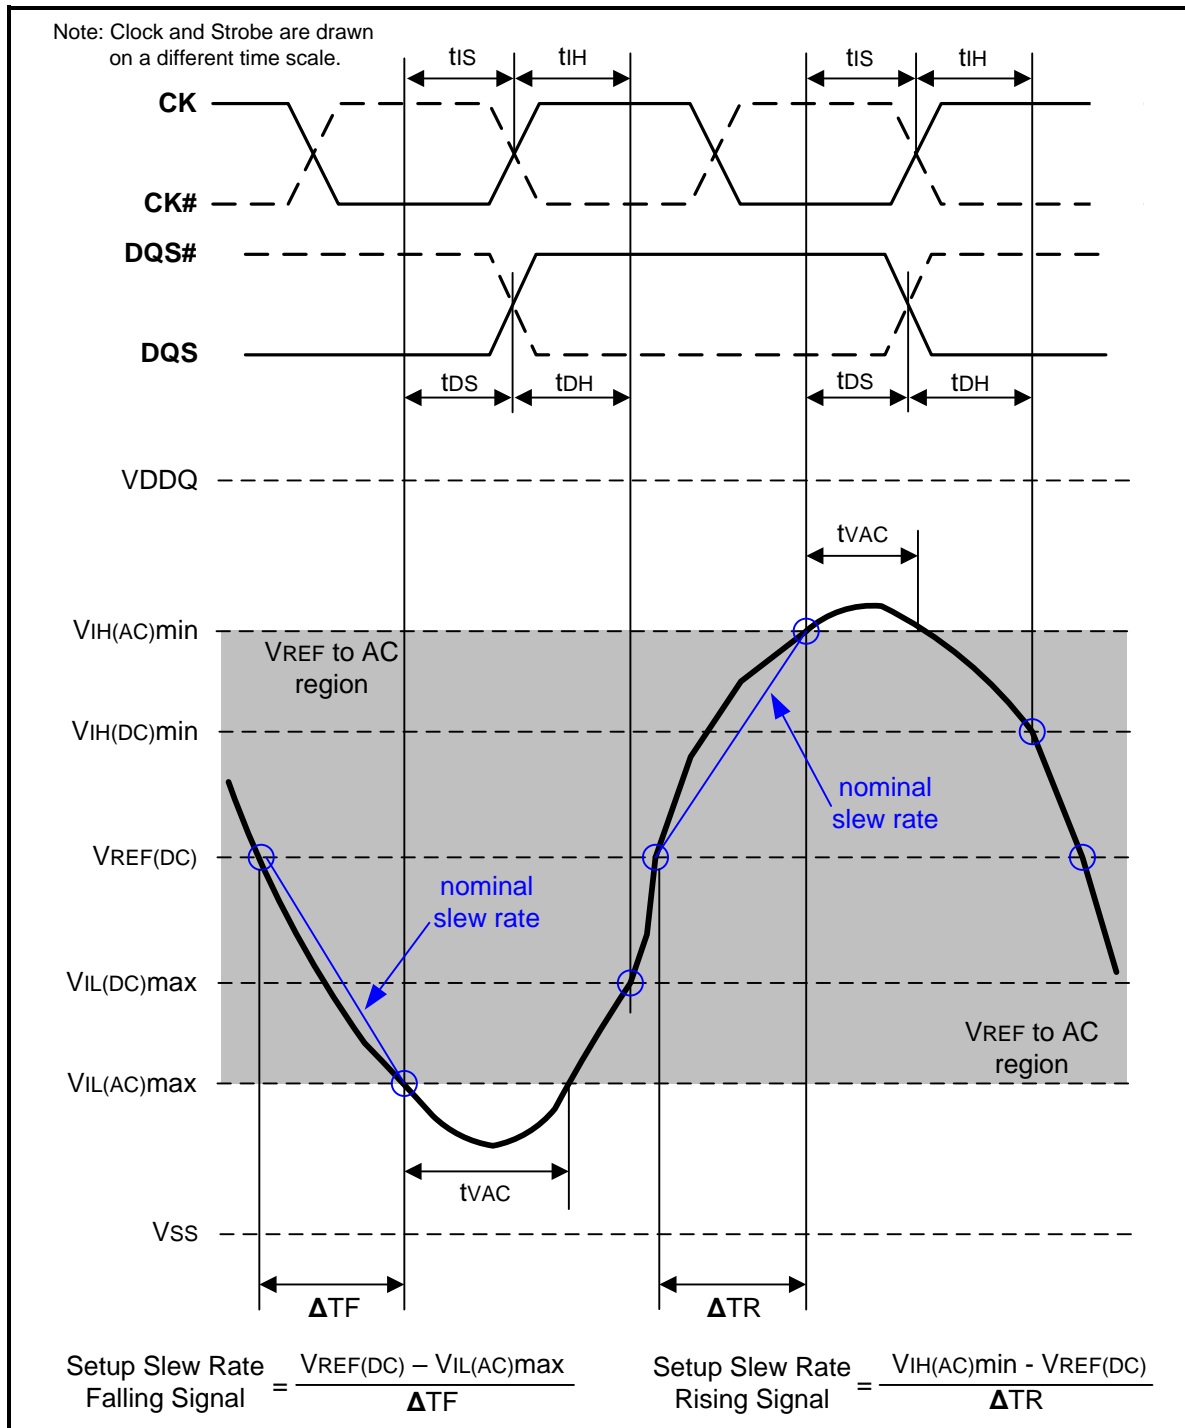
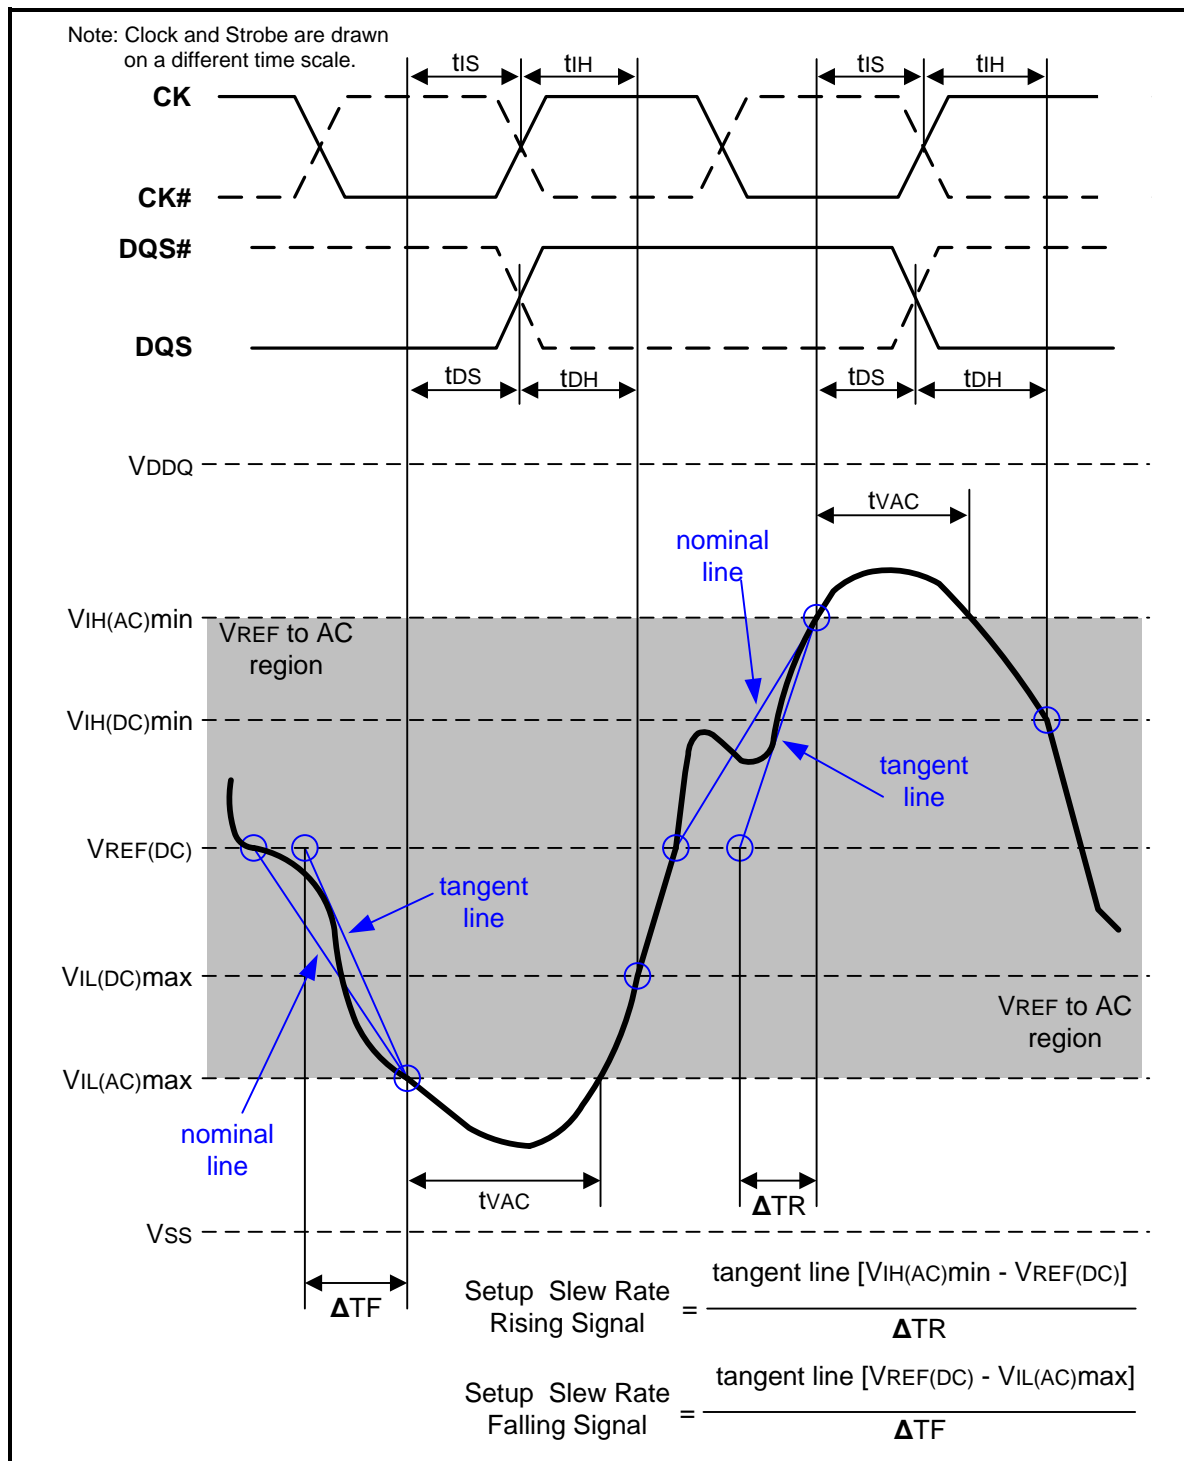

Figure 107 – Illustration of nominal slew rate and tvAC for setup time tDS (for DQ with respect to strobe) and tIS (for ADD/CMD with respect to clock)
Figure 109 – Illustration of tangent line for setup time t_{DS} (for DQ with respect to strobe) and t_{IS} (for ADD/CMD with respect to clock)
Setup (t_{IS}) nominal slew rate for a rising signal is defined as the slew rate between the last crossing of $V_{REF}(\text{DC})$ and the first crossing of $V_{IH}(\text{AC})_{\text{min}}$. Setup (t_{IS}) nominal slew rate for a falling signal is defined as the slew rate between the last crossing of $V_{REF}(\text{DC})$ and the first crossing of $V_{IL}(\text{AC})_{\text{max}}$. If the actual signal is always earlier than the nominal slew rate line between shaded ' $V_{REF}(\text{DC})$ to AC region', use nominal slew rate for derating value (see Figure 107). If the actual signal is later than the nominal slew rate line anywhere between shaded ' $V_{REF}(\text{DC})$ to AC region', the slew rate of a tangent line to the actual signal from the AC level to $V_{REF}(\text{DC})$ level is used for derating value (see Figure 109).
Setup (tDS) nominal slew rate for a rising signal is defined as the slew rate between the last crossing of VREF(DC) and the first crossing of VIH(AC)min. Setup (tDS) nominal slew rate for a falling signal is defined as the slew rate between the last crossing of VREF(DC) and the first crossing of VIL(AC)max (see Figure 107). If the actual signal is always earlier than the nominal slew rate line between shaded 'VREF(DC) to AC region', use nominal slew rate for derating value. If the actual signal is later than the nominal slew rate line anywhere between shaded 'VREF(DC) to AC region', the slew rate of a tangent line to the actual signal from the AC level to VREF(DC) level is used for derating value (see Figure 109).